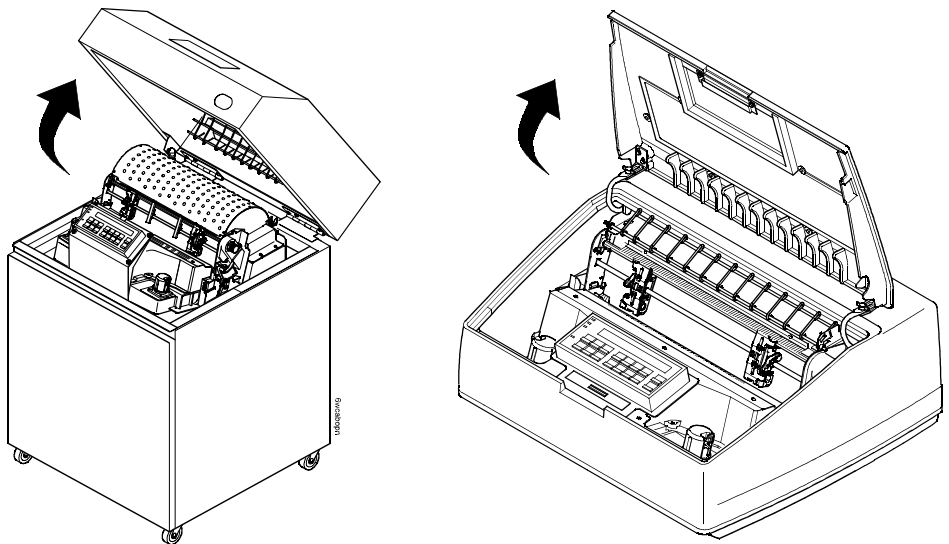

Figure 36. Opening the Printer Cover
1. Open the printer cover. See Figure 36.